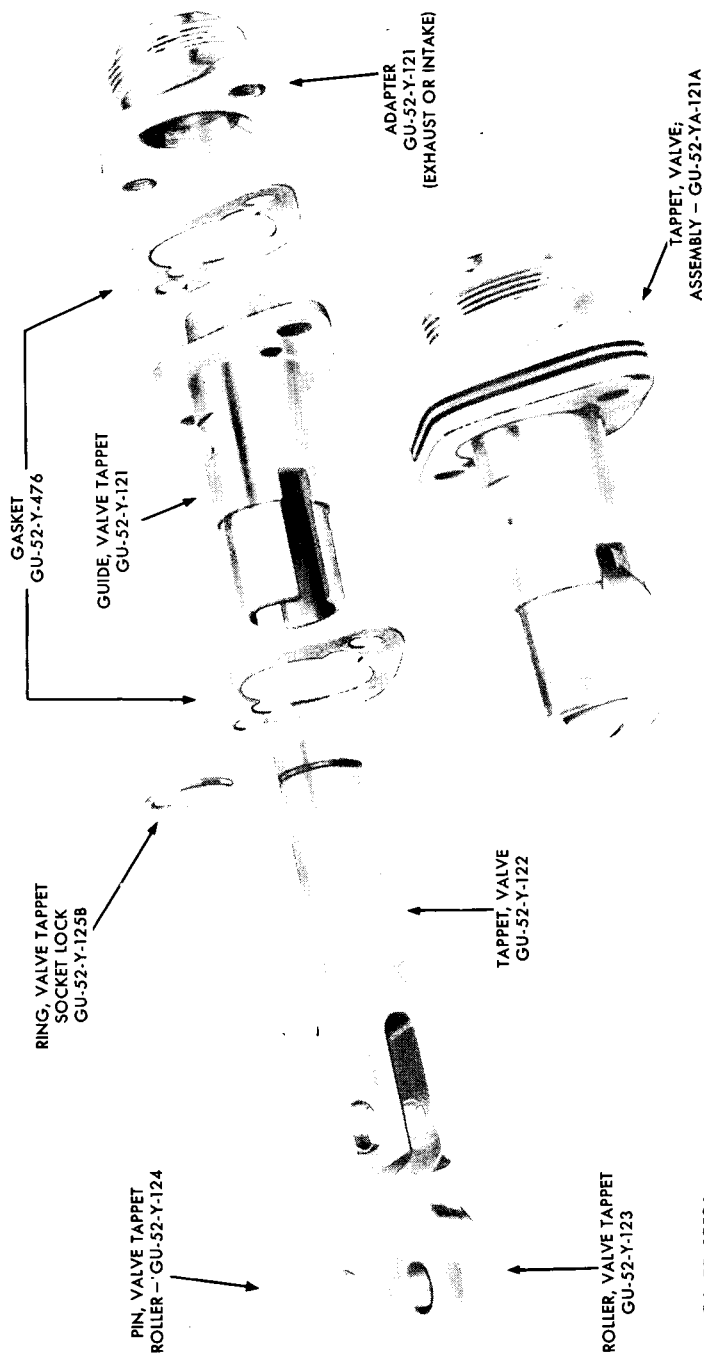

Figure 24—Valve Tappet and Guide Assembly
47. REMOVE THE VALVE TAPPETS AND GUIDES (fig. 24).